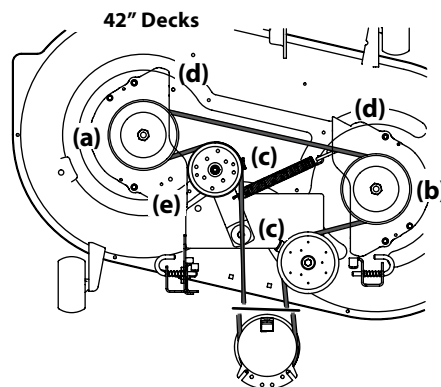
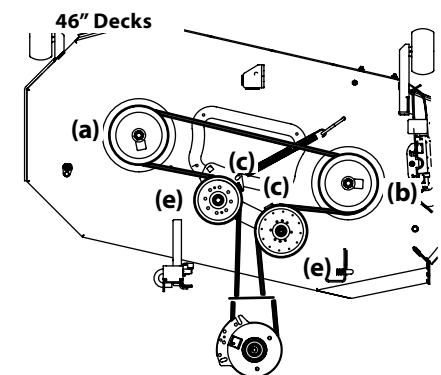

Figure 4-13
Figure 4-14
2. Loosen, but do not remove the hardware on the right (a) and left idler pulley (b). Refer to Figure 4-13 for 42" decks, Figure 4-14 for 46"